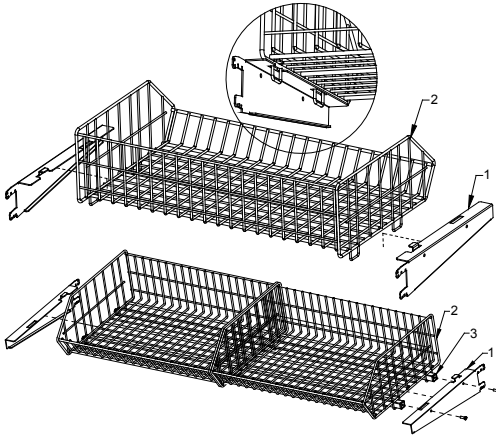

Fig.7 Fruit and vegetable baskets
2. Place shelves and/or baskets on hooks Fig.5 (p.4) and/or Fig.7 (p.6)